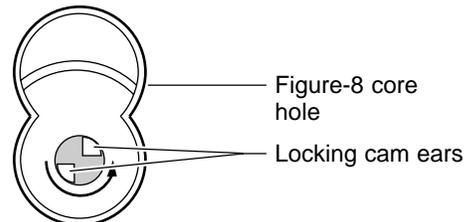

Fig. 1 (Right-hand)
2. Looking into the figure-8 core hole, turn the locking cam ears counterclockwise to match the position shown in figure 1. Reinstall the core and throw member.
3. With the door open, check the operation of the knobs: the outside knob is locked and unlocked by fully rotating the inside key 360° — counterclockwise to lock, clockwise to unlock.